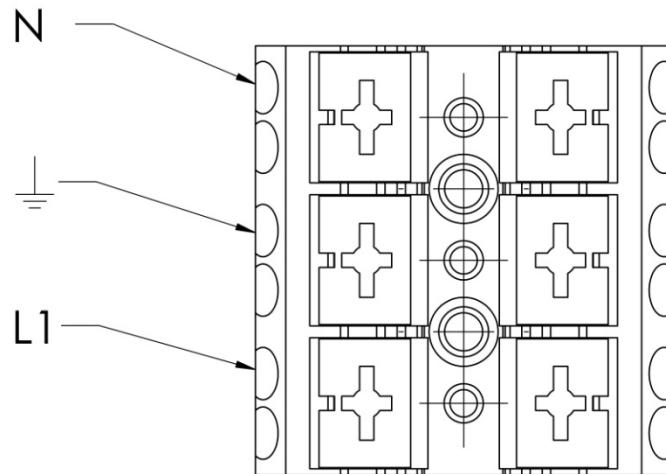

Figure 14: Terminal Block Connections
- Wire to terminal block as shown in figure 14.